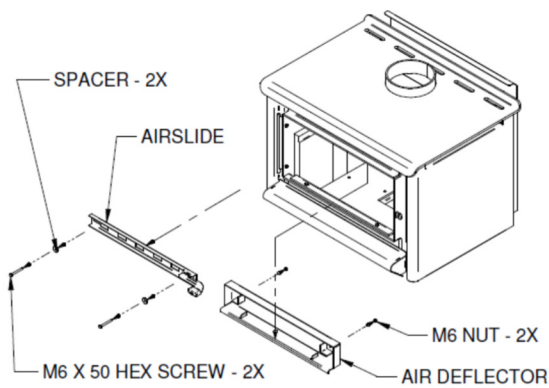

Figure 9. Step two
Step Two (Figure 9):
1. While holding the deflector in correct position ref detail D of Fig 9, refit the new Air slide (983278) to the front of the heater.